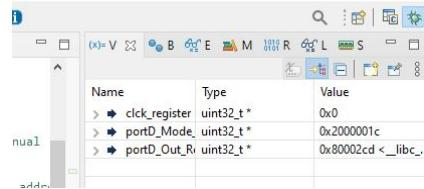

Figure 5.4: Switching Back to Editor Mode
- In Figure 5.3, we can switch between debugger mode and editor mode. To return to editor mode, click on C/C++ as shown in Figure 5.4.